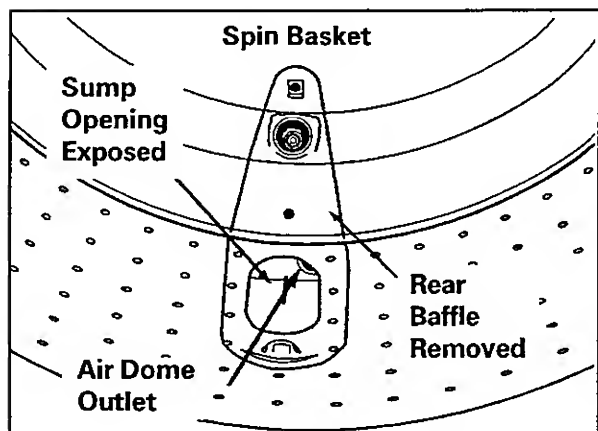

Figure 6-5
- Grasp and lift the airdome hose from the sump area (*Figure 6-5*).
- Pull the air dome and hose out through the sump opening in the spin basket (*Figure 6-5*).
- Thread the narrow end of the hose through the air dome outlet in the rear of the outer tub (*Figure 6-5*). Apply alcohol to lubricate the hose to ease insertion into the outer tub air dome outlet.